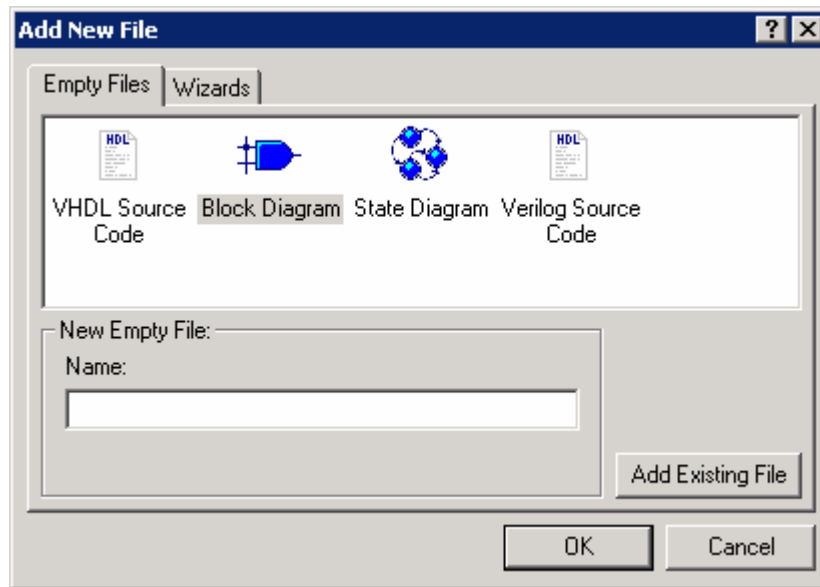

Figure 8
2. Click the Empty Files tab in the Add New File window. Select the Block Diagram Wizard icon, type in a descriptive name, and then click the OK button (Figure 8).